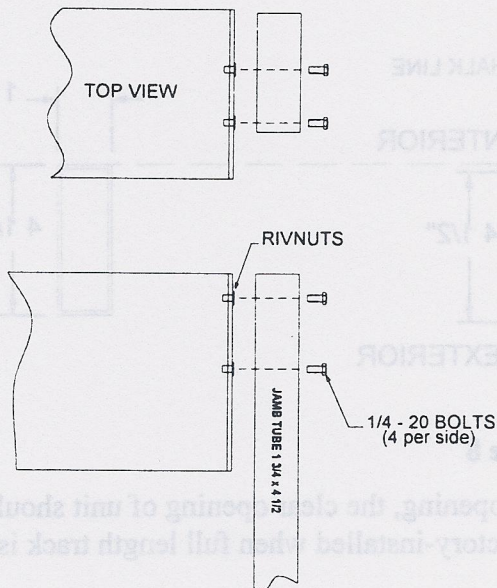

Figure 5
3. Position the jamb tubes on each end of the header and fasten them with the provided 1/4 - 20 x 1 inch bolts into the rivnuts in the jams (See Figure 5). Refer to the label on the jamb for proper location.